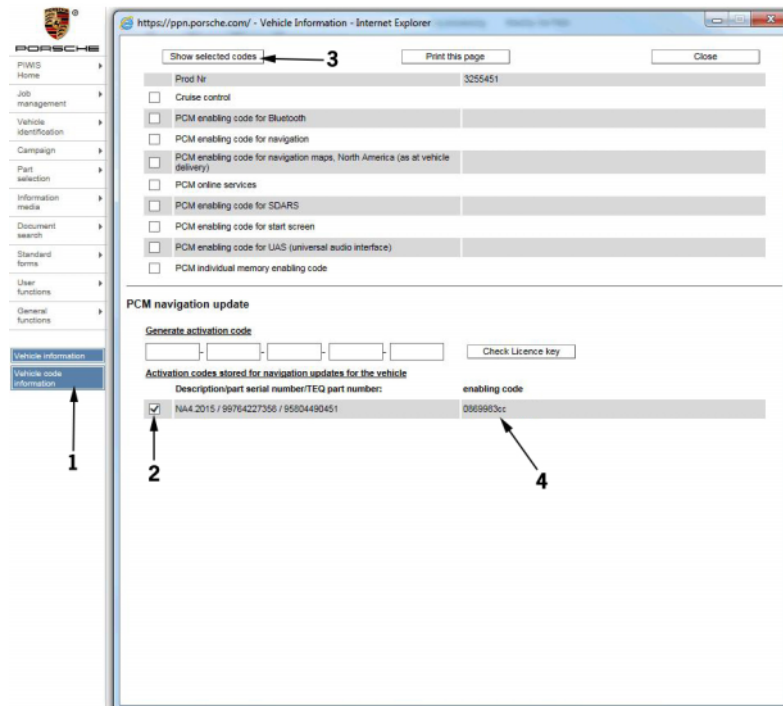

Figure 1
- Screen shot "Figure 1" was added to Remedial Action Step 2.
To generate the enabling code for the use of the navigation database DVD, Part # 99764227358 go to the PCM navigation update section of Vehicle code information & click in the box next to the navigation map update (See Figure 1 #2) and hit the button "show selected codes" (See Figure 1 #3). The enabling code (See Figure 1 #4) will then be displayed next to the navigation map update."